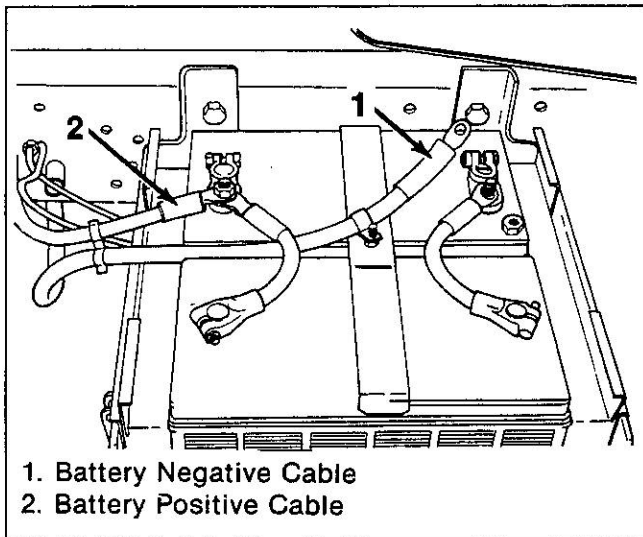

Figure 1. Battery Cable Identification
1. Battery negative cable (1) at the battery (figure 1).